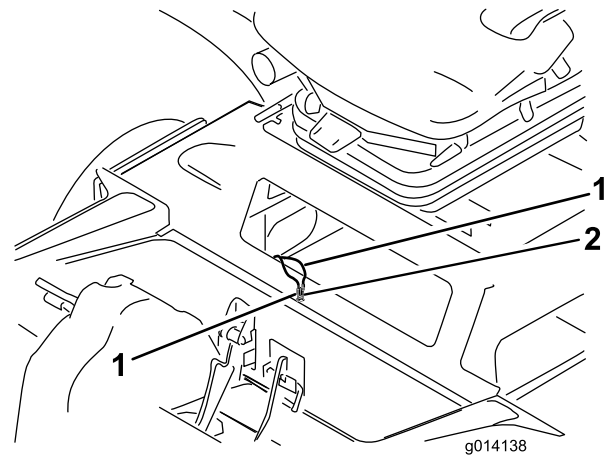

Figure 56
3. Locate the 2 capped counterbalance jumper wires inside the compartment (Figure 56)